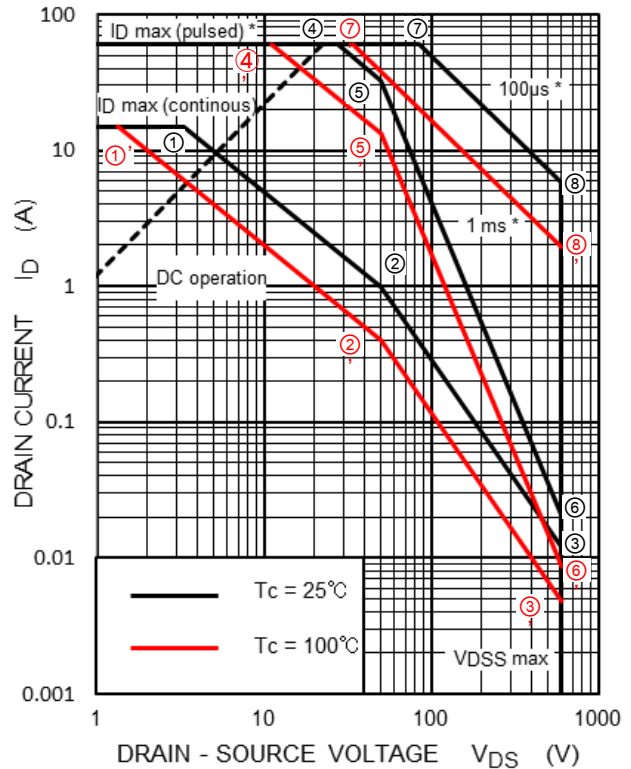

Figure 3.2 Temperature derating of the safe operating area
In Figure 3.2, ① and ② are in the area bound by the thermal limitation. ① and ② lie on the iso-power line of  $P_D(\max) = 50 \text{ W}$  ( $V_{DS} \times I_D = 50 \text{ W}$ ). At  $T_c = 100^\circ\text{C}$ , The power dissipation is derated to a 20-W iso-power line derived from Figure 3.1. ①' and ②' can be calculated using Equation 3-3 and Equation 3-4 by derating  $V_{DS}$  at ① and  $I_D$  at ② to 40% using Equation 3-2.